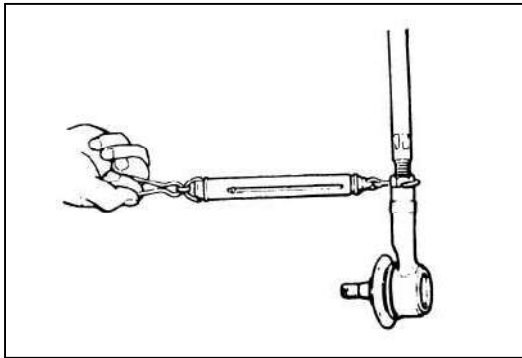

Fig.17-20
- 2) With the tie rod end downwards as shown fig 17-20, use a spring scale to measure swing resistance